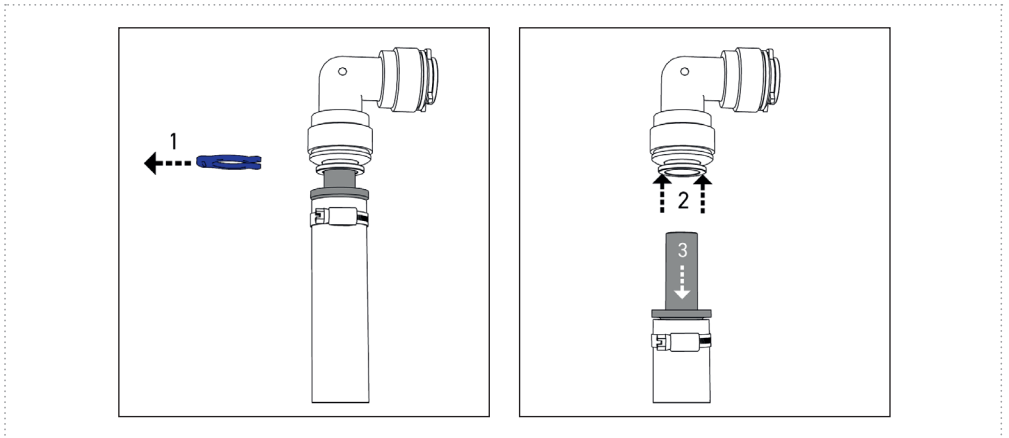

Figure 15
If it is necessary to release a push-in connection, proceed as follows (Figure 15). First remove the safety ring (1). Push back the retaining element with your fingers or using a release aid (e.g., safety ring) and hold it (2). The inserted pipe or hose can now be removed (3).